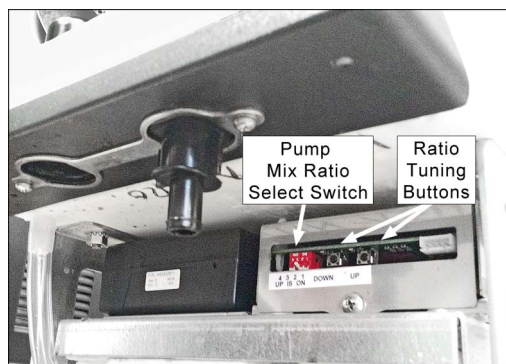

Figure 3-8 - Ratio Select Switch & Tuning Buttons
Mixing ratios are adjusted by changing the DIP switch settings on the Main PCB mounted beneath the cabinet, as shown in Figure 3-8. Adjustment of these settings changes the speed of the peristaltic pump to provide more or less concentrate per unit time.
Dispense Motor: A 3-position switch for normal operation (ON), system shutoff (OFF) and for performing sanitizing procedures (CLEAN). In CLEAN mode, this switch sets the concentrate pump to the water/cleaning-agent mixing ratio (5:1). When the switch is returned to the ON position, the mixing ratio returns to that selected on the pump mix-ratio switch bank (Fig. 3-8).